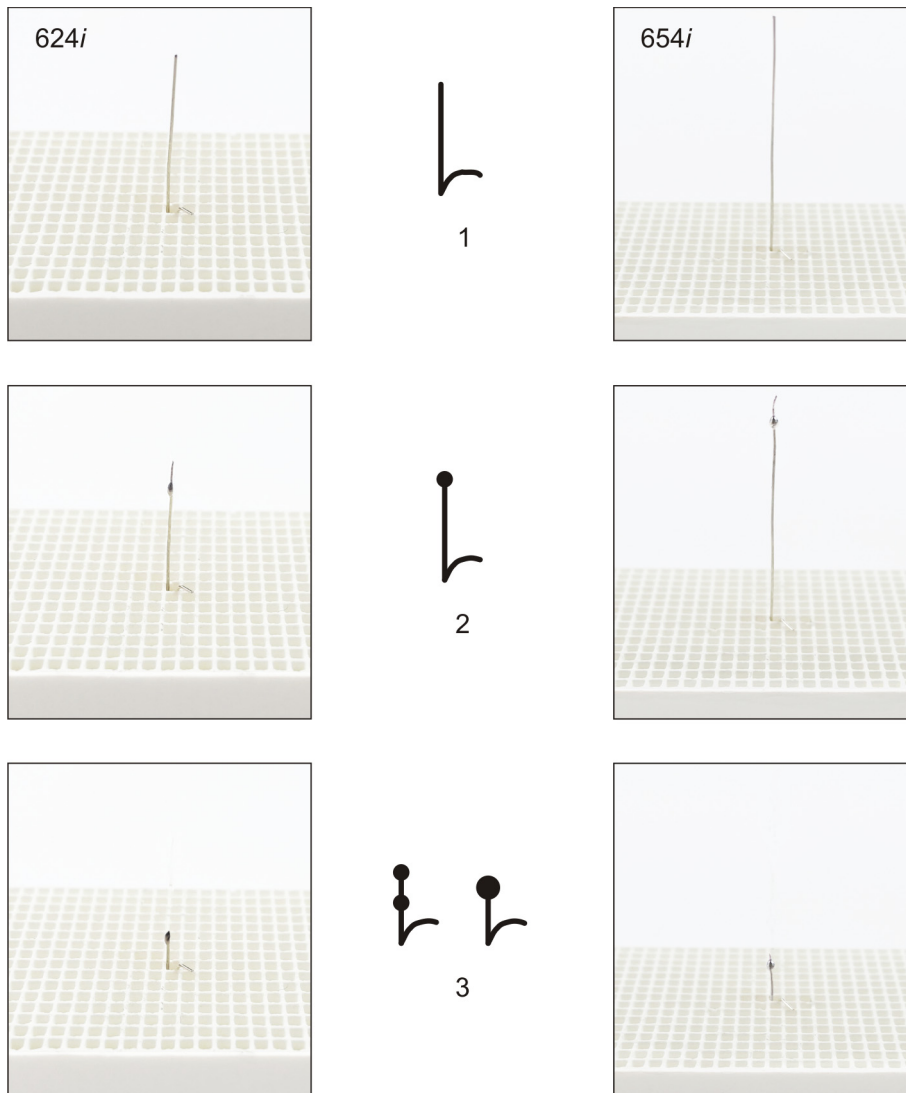

Fig. 7-2 Evaluating the silver wire
4. Evaluate the silver wire after the program using the illustration in Fig. 7-2.